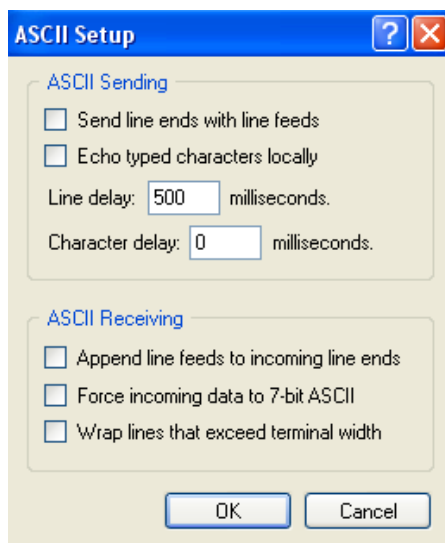

Figure 2-6 • Setting ASCII Setup in HyperTerminal
- Click the **ASCII Setup** button to open ASCII Setup window and change Line delay to 500 milliseconds (Figure 2-6).